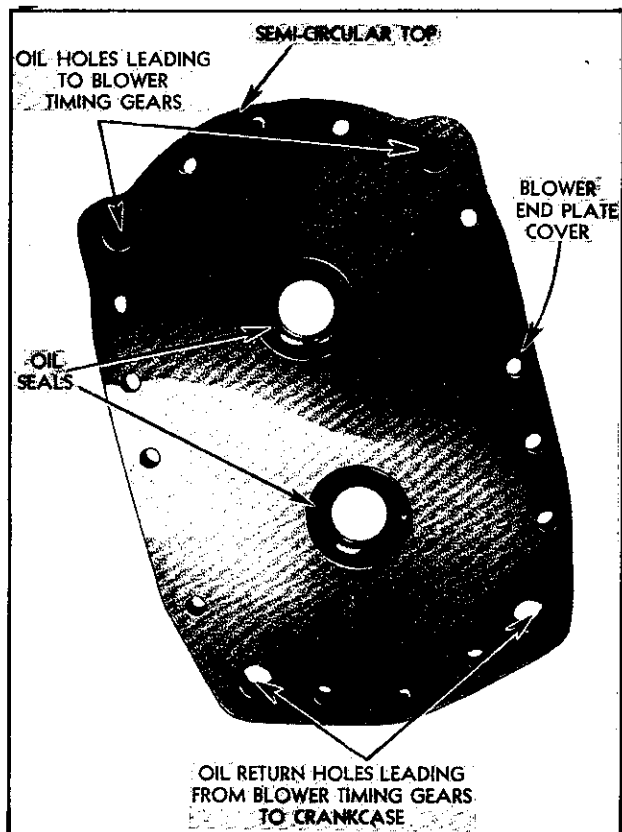

Fig. 9—Blower End Plate.
- (c) Slip pressure plate (E) over body and next to head of puller stud and turn puller stud (A) clockwise forcing oil seal into seat until pressure plate (E) sets tight against inner face of blower end plate. Remove tool and install remainder of seals in the same manner.
2. **Install Blower Front End Plate**—The top of the blower may be identified by the flange which carries the entire length of the housing and provides a rest on top of the cylinder block. The end plate is semi-circular at the top, as shown in Fig. 9, and is also marked "TOP" on outer, ribbed side.
(b) Identify top and bottom of end plate as described in item (2) above, and shown in Fig. 9, and start end plate dowels into dowel holes in blower housing. Tap dowels lightly to fit end plate to housing.